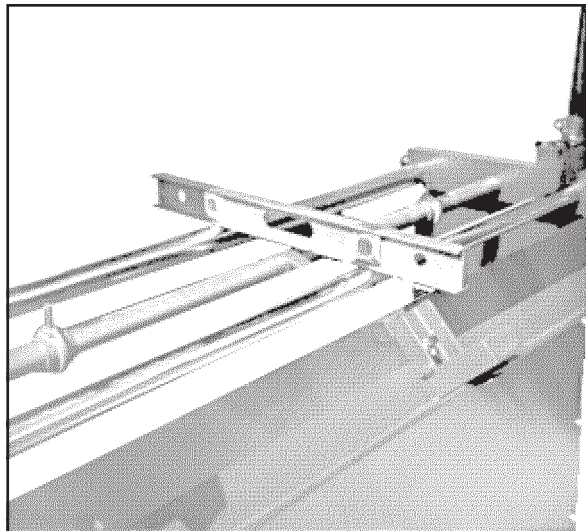

Figure 2.5 Level across track shafts
2.2.2 With the grinder in its final location, use a good quality carpenters level across both track shafts as shown in Figure 2.5 and adjust until grinder is level.